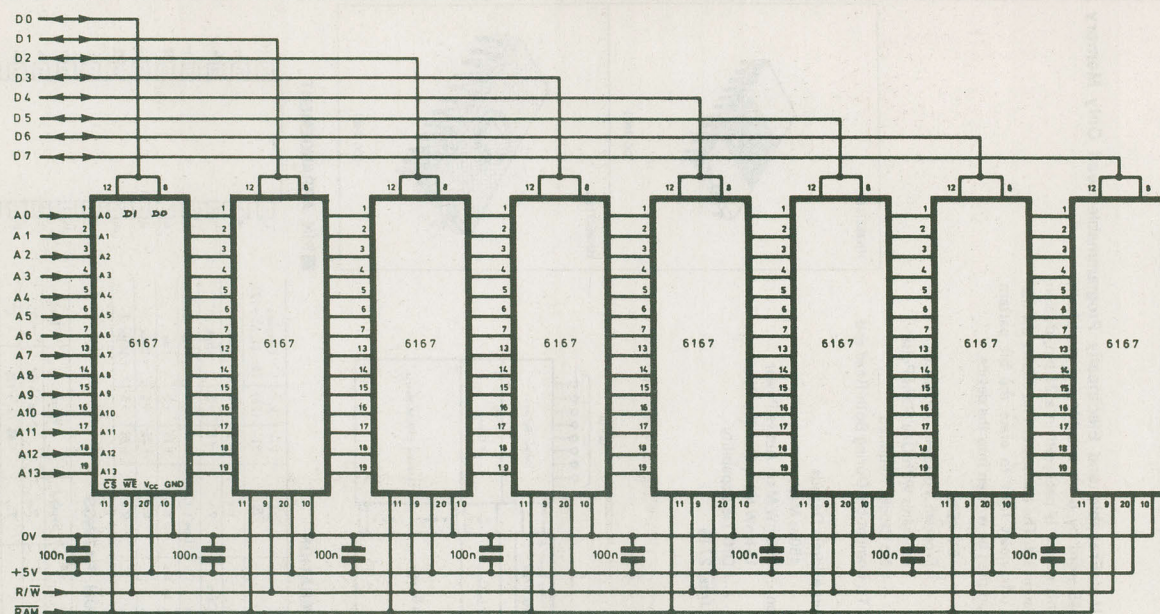

Fig. 5.6. A practical 16K byte semiconductor read/write memory.
Fig. 5.6 shows the basic arrangement of a practical 16K byte semiconductor read/write memory based on eight 6167 CMOS static RAM devices. Each 6167 RAM is organized on the basis of 16384 words x 1 bit and thus eight 6167 devices will be required (one for each data bit). Note that address lines A0 to A13 are common to all of the RAM devices and that the active-low chip select (CS) line is driven from the address decoder (not shown) which uses the two most significant address lines (A15) and (A14) as inputs to determine which of the four 16K byte blocks of memory is actually being used.